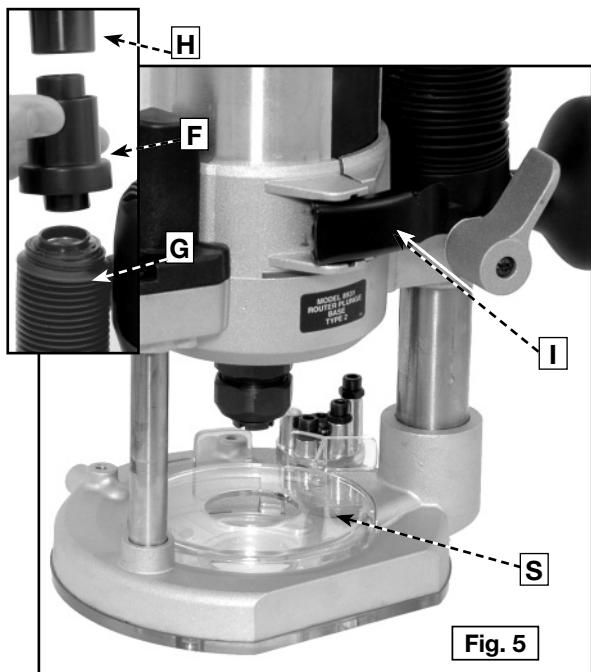
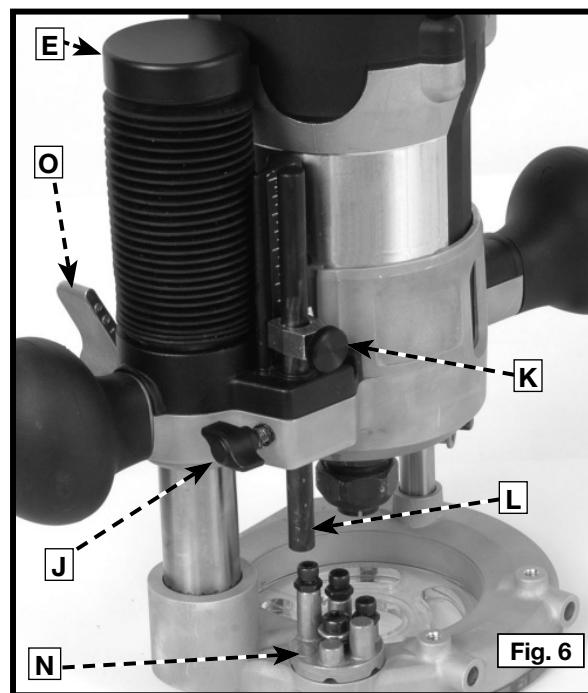
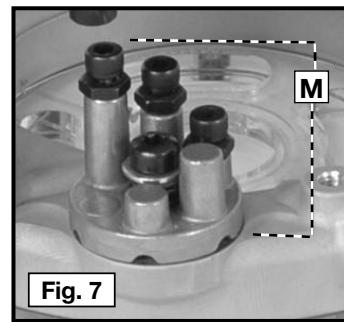
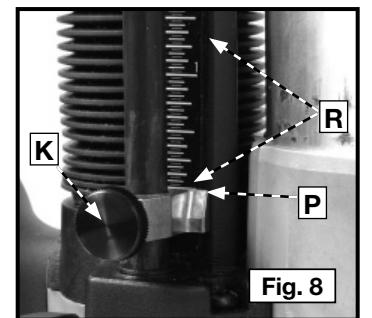

Fig. 5
Fig. 6
Fig. 7
Fig. 8
1. Open the clamp (I) Fig. 5 and set the motor in the base.
3. Close the clamp (I) Fig. 5.
1. Remove the dust cap (E) Fig. 6 by pulling straight up.
2. Insert the dust extraction hose adapter (F) into the dust extraction port (G) as shown.
3. Insert the end of a standard vacuum cleaner tube (H) into the hose adapter.
NOTE: Be sure the dust shroud (S) Fig. 5 is installed into the plunge base as shown.
1. Pull the lever (I) Fig. 5 toward you.
1. Loosen the depth rod locking knob (J) Fig. 6, and depth indicator knob (K), allowing the depth rod (L) to contact one of the turret stops (M) Fig. 7. Normally the deepest desired cut is set with the depth rod resting on the lowest point on the turret dial (N) Fig. 6. You can also utilize any combination of fixed and/or adjustable stops (M) to achieve the desired depth of cut.
2. Push the router down until the bit touches the work surface. Push the locking lever (O) down to lock the router in this position.
3. Tighten the depth-rod locking knob (J) Fig. 6.
4. Position the depth indicator (P) Fig. 8 at the "0" position and tighten the knob (K) Fig. 8.
5. Loosen the depth-rod locking knob (J) Fig. 6, and raise depth rod (L) until the indicator (P) Fig. 8 aligns with the desired depth of plunge measurement (R).
6. Tighten the depth-rod locking knob (J) Fig. 6.